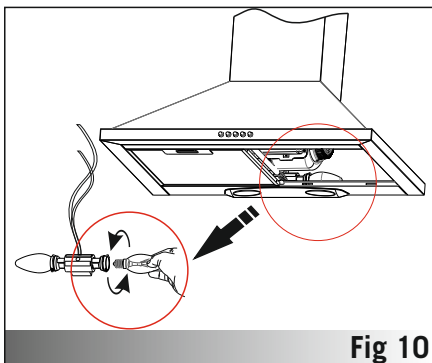

Fig 10
- Note: Remove the holder on the LED bulb. Put the new LED bulb on the holder housing of the LED bulb you removed as shown in Figure 10.